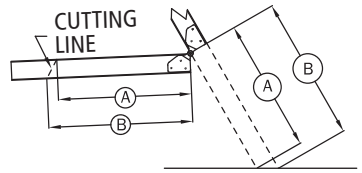

FIGURE 11
- B. With a straight edge, measure distances from middle section to floor, for both A & B lengths (Figure 11). Record the results in the space provide in table 2. Take measurements for both the left and right rails.